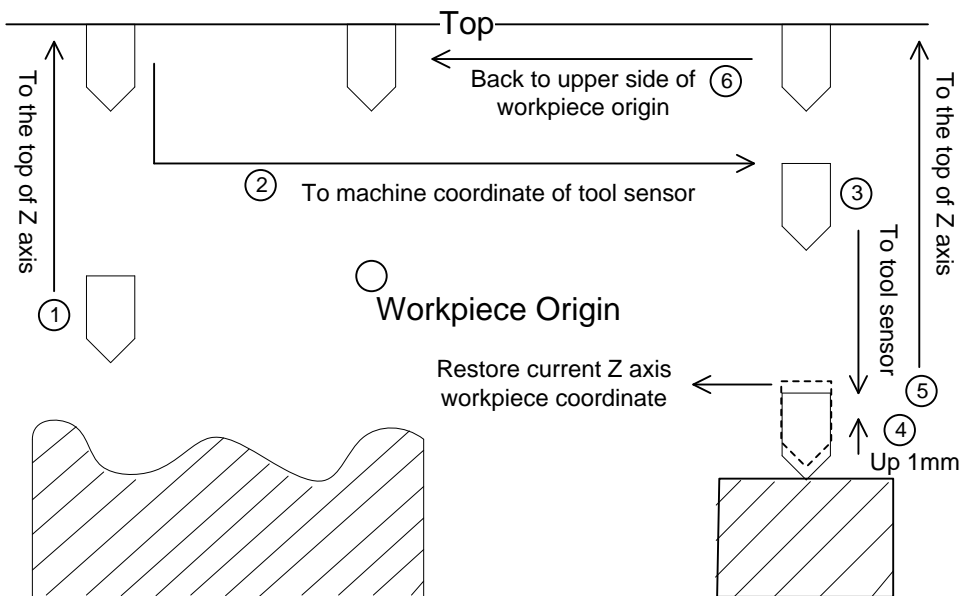

Fig. 3-24 Tool calibration after tool changed
- 4) After tool changed or tool breakage, click  button under “Calibrate with tool changed” item to conduct tool calibration after tool changed. The system will restore the current Z1 workpiece coordinate. As shown in Fig. 3-24, the whole process will be completed automatically.